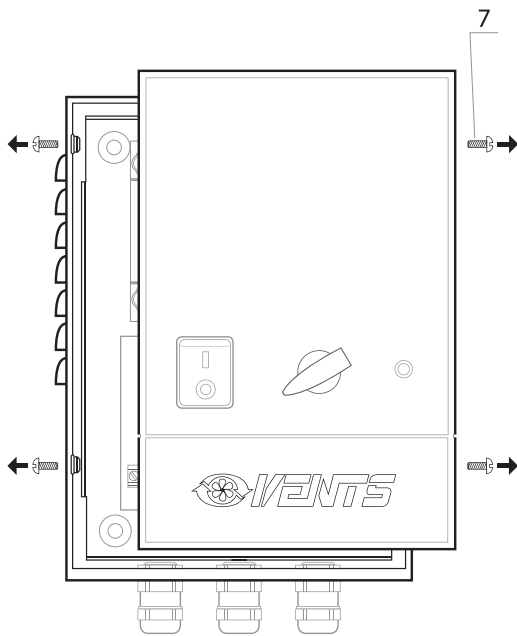

Fig. 2
- Remove the front panel by unscrewing self-tapping screws 7 (see Fig. 2);
- Secure the regulator to the mounting surface using mounting holes 2 in the rear wall of the unit (see Fig. 2);